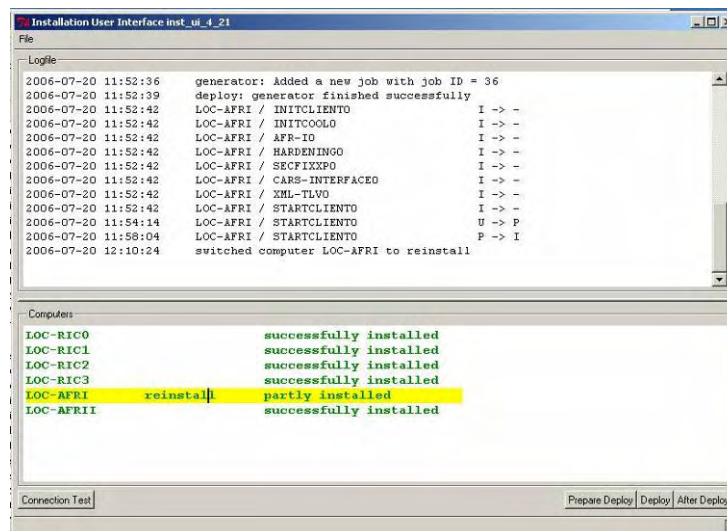

Figure 1-264. Reinstall System
35. Place the cursor in the highlighted line and press **R** key, the word “reinstall” is displayed in the same line (Figure 1-264).